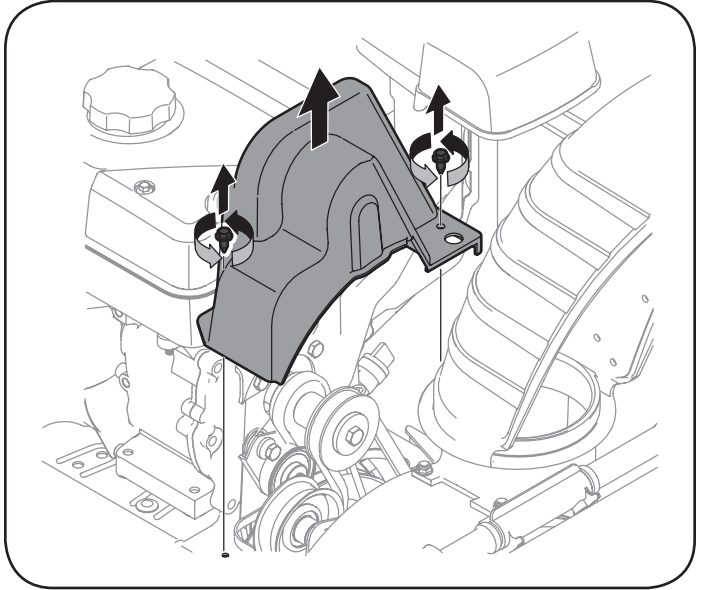

Figure 27
2. Remove the plastic belt cover on the front of the engine by removing the two self-tapping screws. See Figure 27.